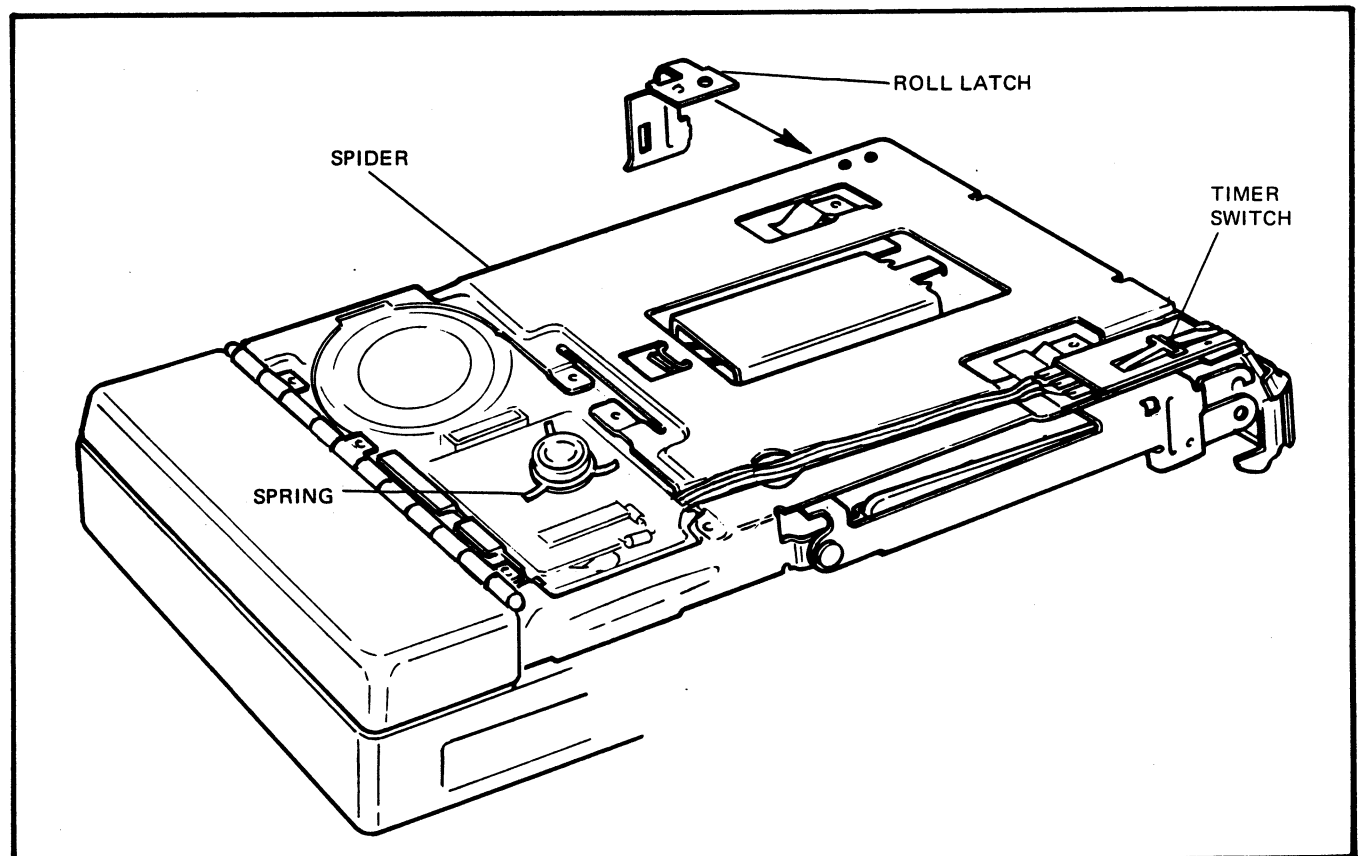

FIG. 5.37 UNSOLDERING THE SWITCH LEADS
6. Remove the insulator and then unsolder the three black leads from timer switch (Figure 5-37). Remove the timer assembly.